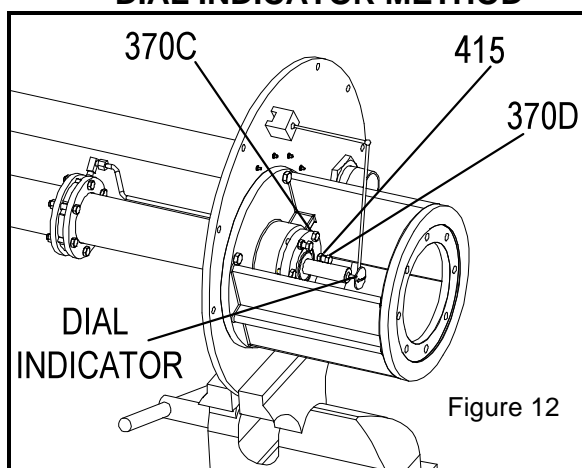

Figure 12
3. Set indicator so that indicator button contacts either the shaft end or the face of the pump coupling hub (Figure 12).
4. Loosen jam nuts (415) on jack bolts (370D). Back off jack bolts several turns.
5. Turn all locking bolts (370C) in several turns until impeller contacts the casing (100). Turn shaft to insure contact has been made.
8. Tighten all bolts and the jam nuts (415) evenly.